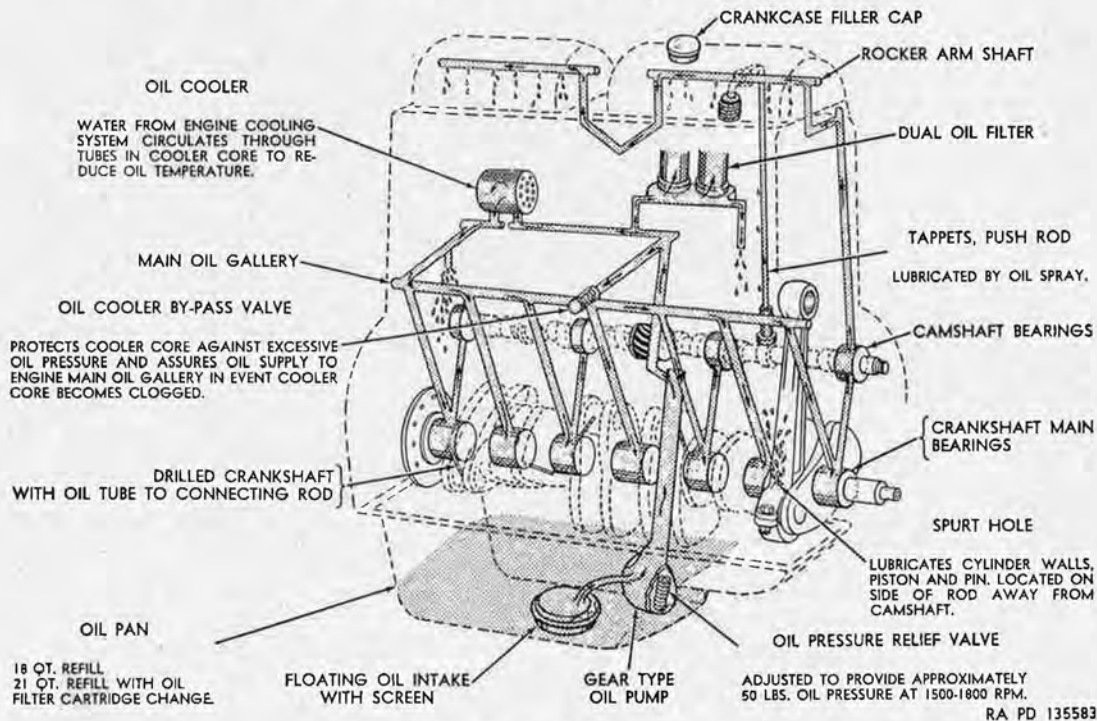

Figure 120. Engine lubrication system.
- (4) *Engine lubrication.* Positive pressure lubrication of all moving internal engine parts is provided by a gear-type oil pump (fig. 120) mounted inside the crankcase and driven off the camshaft. Normal oil pressure with the engine running at idling speed is 15 psi. Normal oil pressure with the engine running at 1,500 to 1,800 rpm is approximately 50 psi. In addition to the oil filters ((5) below) and oil pan ((6) below), the engine lubrication system also includes an oil cooler, mounted on the left side of the engine crankcase, to prevent overheating of the engine oil.